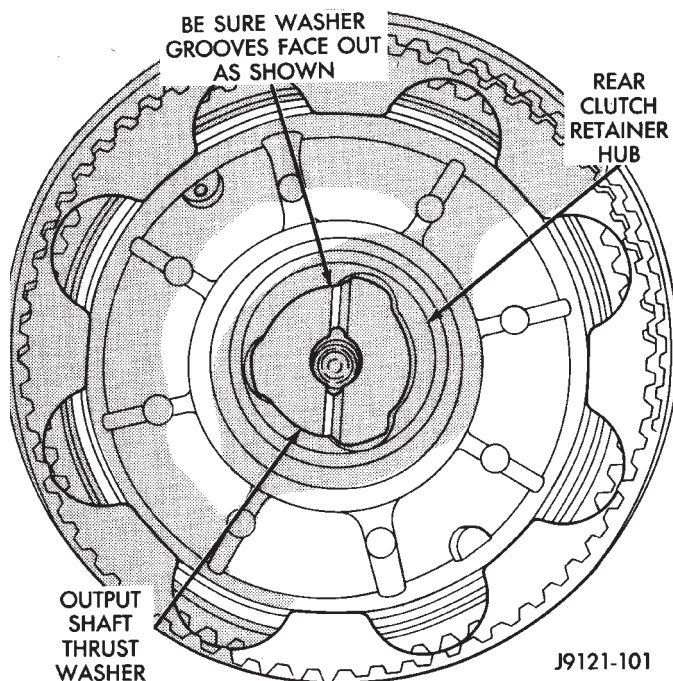
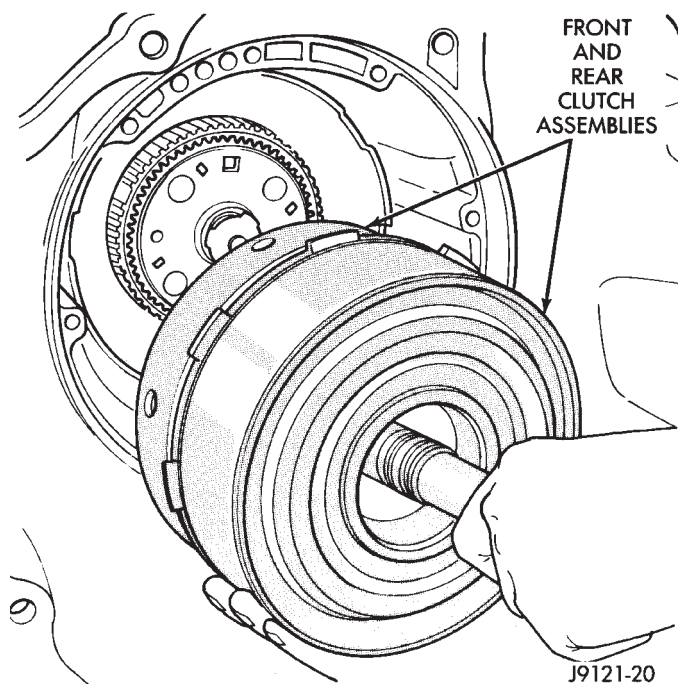

Fig. 145 Installing Intermediate Shaft Thrust Washer—46RH
Fig. 146 Installing Front/Rear Clutch Assemblies—46RH
(24) Install intermediate shaft thrust washer in hub of rear clutch retainer (Fig. 145). Use petroleum jelly to hold washer in place. Position washer so grooves are facing outward. **Washer only fits one way in clutch retainer hub.**
(25) Place transmission case in upright position, or place blocks under front end of transmission repair stand to tilt case rearward. This makes it easier to install front/rear clutch assembly.
(26) Align discs in rear clutch. Then install and engage assembly in front planetary and driving shell (Fig. 146). Turn clutch retainers back and forth until both clutches are seated.